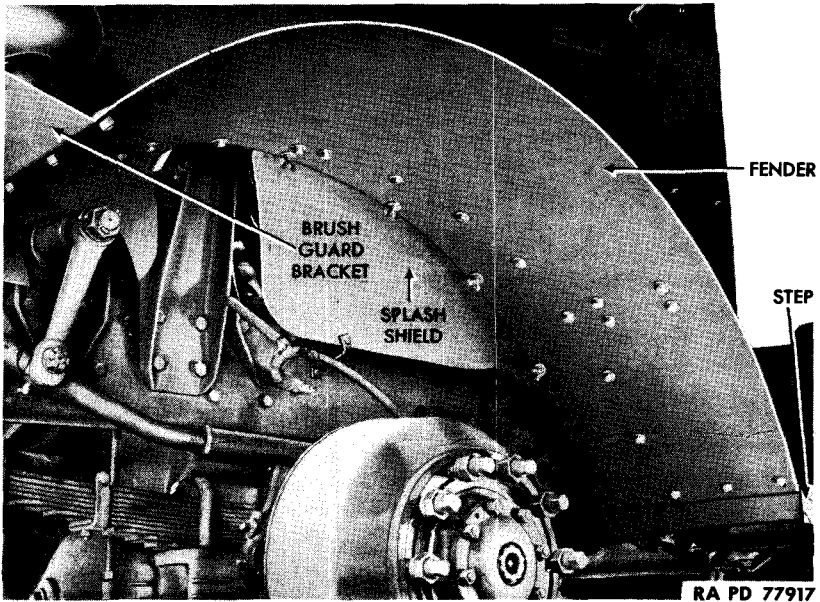

Figure 95 — Fender Installed
a. **Description** (fig. 95). The front fenders are attached to cowl and cab above front wheels, to steps at rear, and to brush guard bracket at front. Rear quarter fenders are attached to fender cross supports in front of rear wheels.